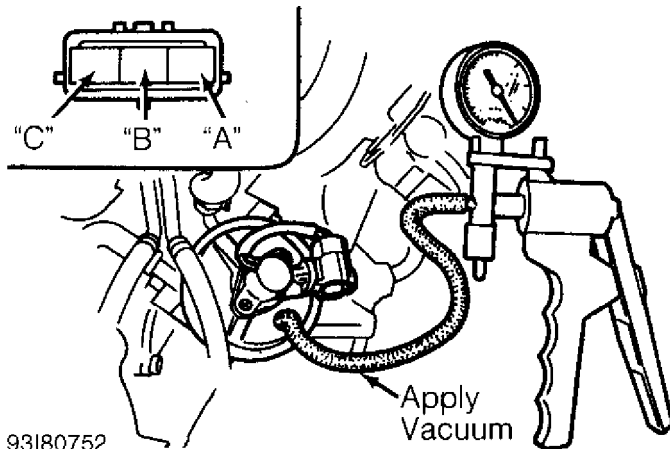

Fig. 66: Testing EGR Position Sensor (MX-6 2.5L & 626 2.5L)
2) Turn ignition on. Check voltage at adapter harness connector terminals. See Fig. 66. See EGR POSITION SENSOR VOLTAGE table.